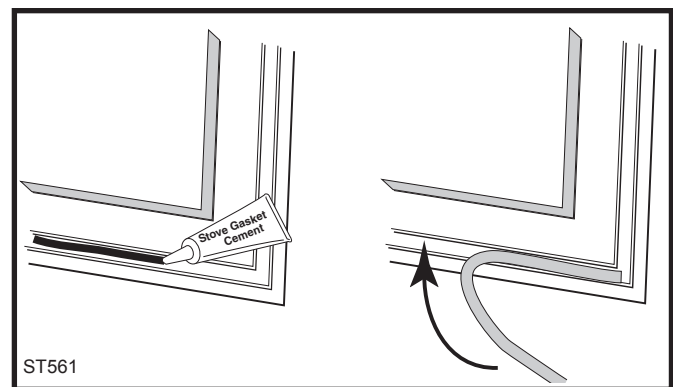

Fig. 53 Lay a bead of gasket cement then press gasket in place.
3. Determine the correct length of the appropriate-sized gasket by laying it out in the channel. Allow an extra 1-2" (25-50 mm), and mark the spot to be cut. (Fig. 53)
6. Starting at one end, press the gasket into the channel. (Fig. 53) Ensure a good joint where the gasket meets before trimming any excess. Do not overlap the gasket ends or leave ends with ragged edges.